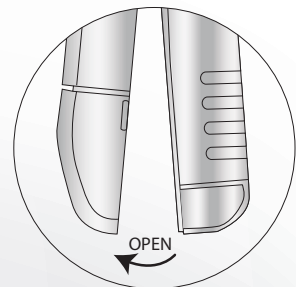

FIGURE 2
- 4** Gently pull the cover straight off the base. (See figure 2.)